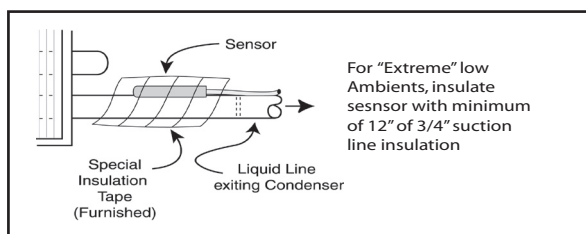

Figure 8
- Refer to **Figure 5, 890-DSQ Wiring Diagram 1**, (on page 13) for applications using staged relay outputs with temperature sensor inputs. Also see **Figure 8** (below) for liquid line temperature sensor mounting.